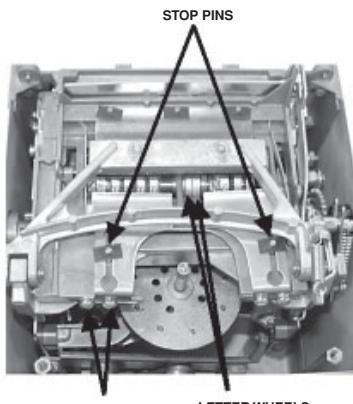

FIGURE 4
1. With the top plate removed, the "letter" wheels are visible (see Figure 4).